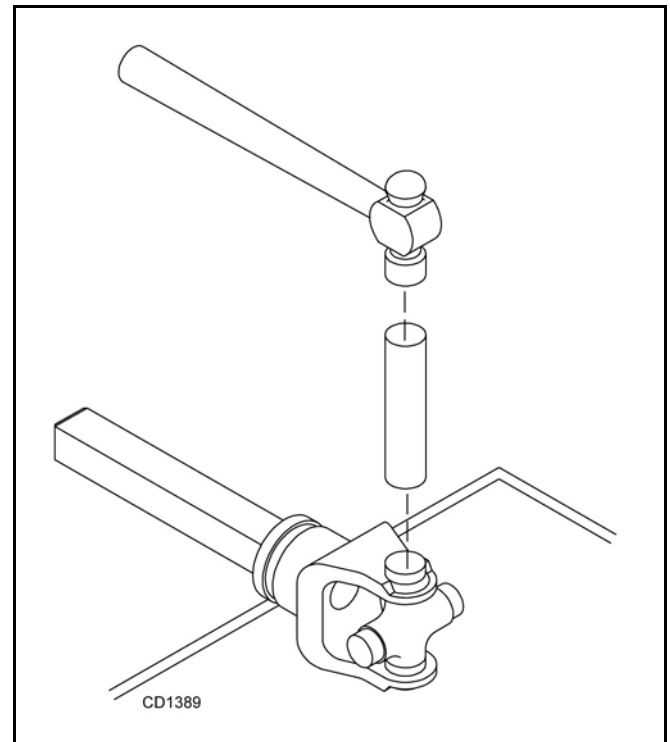

Figure 31
3. Seat cups by placing a drift or socket (slightly smaller than the cup) on cup and rap with a hammer. See Figure 31. Install snap ring and repeat on opposite cup.